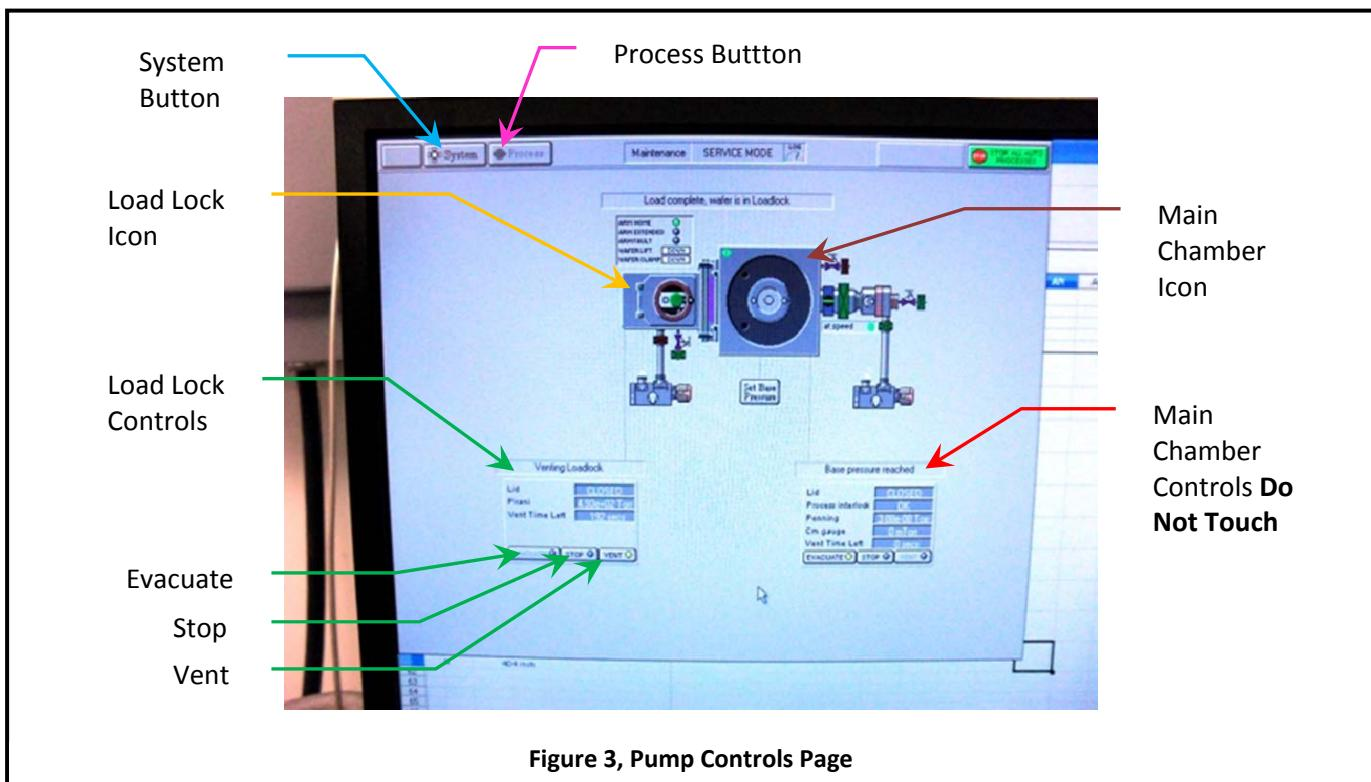

Figure 3, Pump Controls Page
| Figure 3, Pump Controls Page | 4 |
- 6.7.1 Click on system icon. See *Figure 3, Pump Controls Page*.
- 6.7.3 Press stop button corresponding to the load lock mechanical pump. See *Figure 3, Pump Controls Page*
- 6.7.4 Press vent button. See *Figure 3*.
- 6.9.2 Select the evacuate button. See *Figure 3*.
- 7.1.1 Click on the icon for the etch chamber. See *Figure 3*.
- 7.2.1 Click Process button. See *Figure 3, Pump Controls Page*.
- 8.1.2.3 Press vent button. See *Figure 3*.